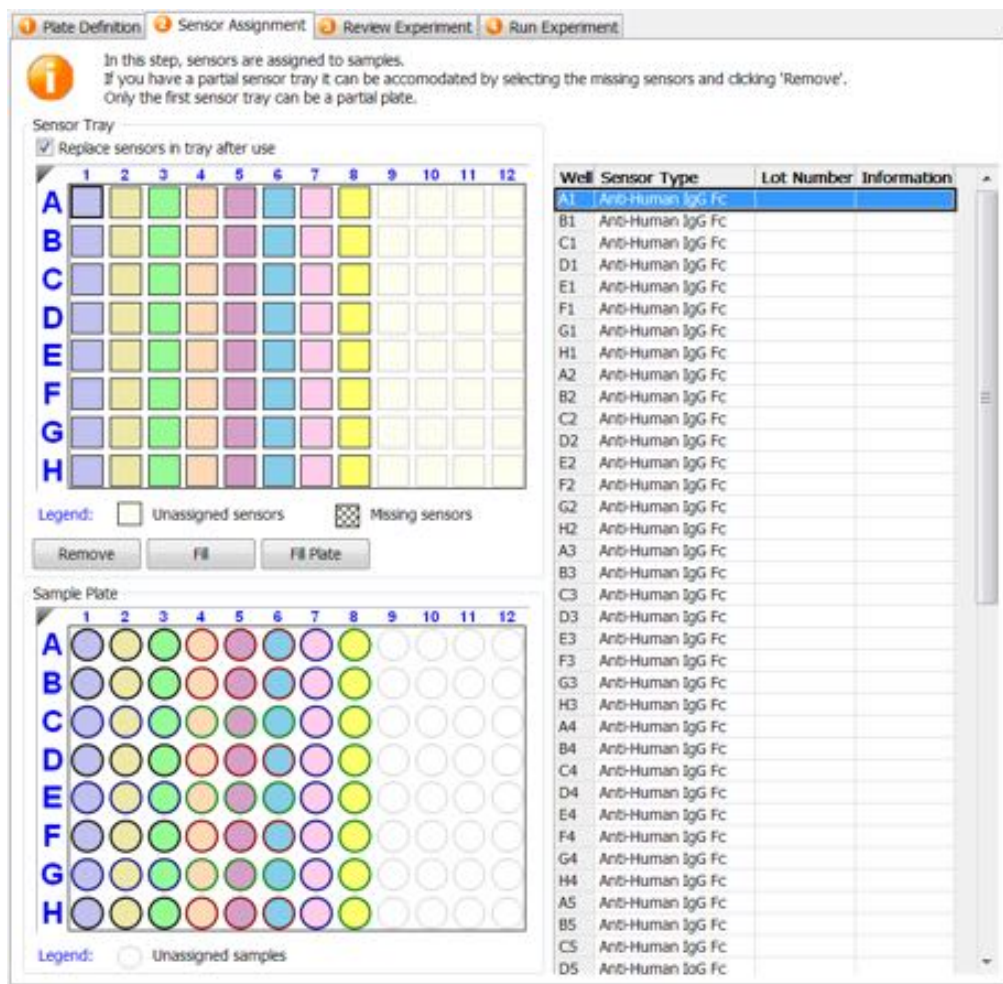

Figure 6-31: Sensor Assignment Window for Basic Quantitation without Regeneration
Click the **Sensor Assignment** tab, or click the  arrow to access the Sensor Assignment window (see Figure 6-31).
- Select a cell in the **Sensor Type** table column, click the down arrow and select a biosensor type from the drop-down list (see Figure 6-31).
The software generates a color-coded **Sensor Tray Map** and **Sample Plate Map** that shows how the biosensors are assigned to the samples by default. In the example shown in Figure 6-31, **one** replicate had been previously selected with the **Multiple Analyte** assay parameter option.